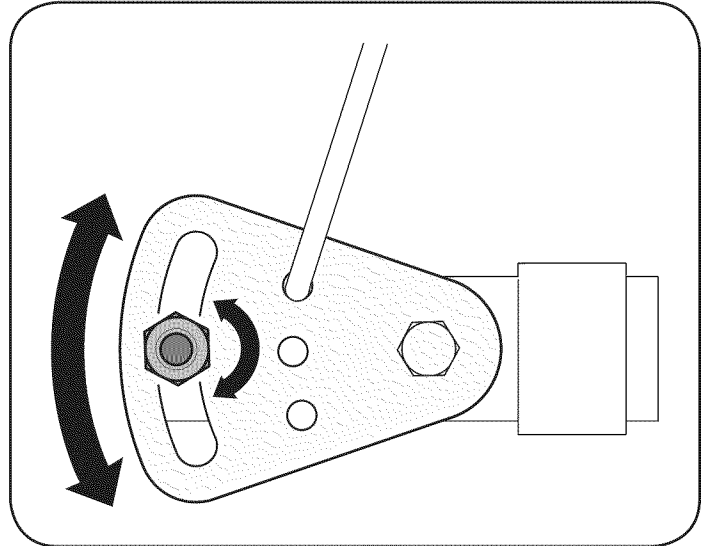

Figure 25
If the full range of speeds (forward and reverse) cannot be achieved, refer to the Figure 25 and adjust the shift cable as follows:
2. Loosen the hex nut on the shift cable index bracket. See Fig. 25.